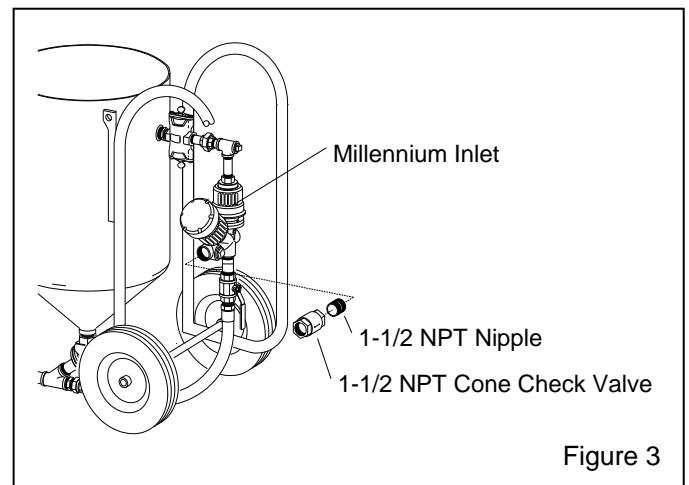

Figure 3
**2.2.1** Where multiple blast machines are operating from a single air source, install a check valve at the air supply on each machine. The illustration in Figure 3 shows where to install a cone check valve on the blast machine.